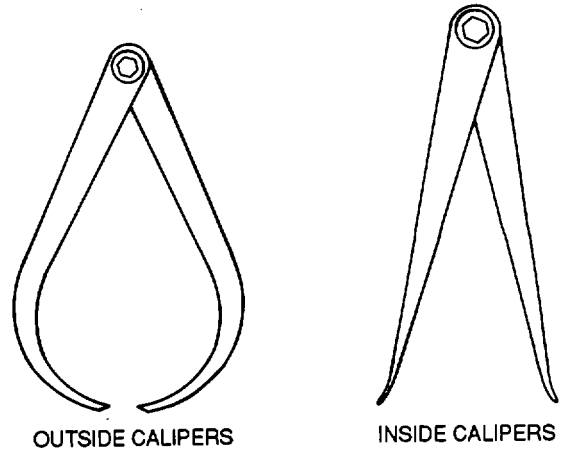

Figure 3-24. Simple Calipers
(1) *Simple calipers.* The simple outside calipers are bowlegged. Those used for inside diameters have straight legs with feet turned outward. Calipers are adjusted by pulling or pushing the legs to open or close them. This type is shown in figure 3-24.